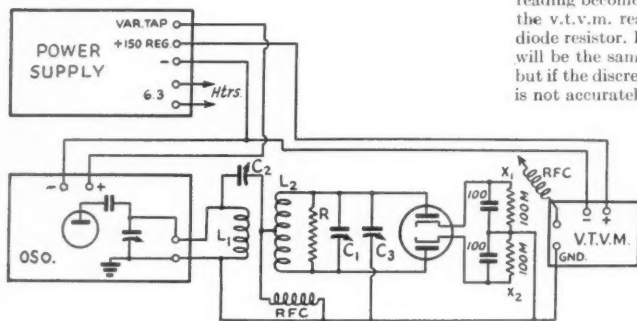
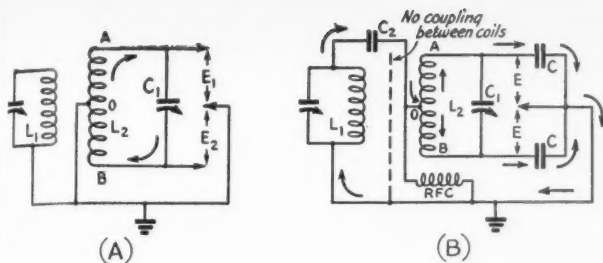
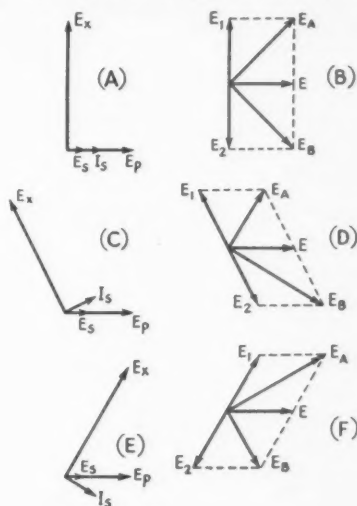
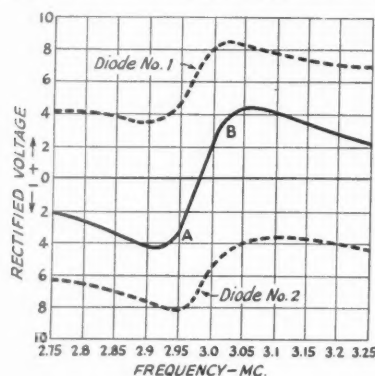

Fig. 10
Fig. 11
Fig. 12
Fig. 13
**Apparatus:** This experiment requires the use of the power supply, oscillator, vacuum-tube voltmeter, test kit and the tube and circuit boards. The circuit arrangement is shown in Fig. 10. The coil  $L_1$  is the movable coil from the circuit board, and replaces the plug-in plate coil normally used in the oscillator. The latter coil should be removed from its socket. The oscillator is operated self-controlled, using the grid coil instead of the crystal. About 30 turns should be used in  $L_1$ .
When  $L_2$  is coupled inductively to  $L_1$  a current flows in the circuit formed by  $L_2C_1$ ; it may have the instantaneous direction indicated by the arrows in Fig. 11-A. The voltage  $E_1$  developed by the current in flowing through the reactance of the part OA of the coil is applied to one diode and that from the current flow through OB,  $E_2$ , is applied to the other diode. The instantaneous current is flowing toward the center-tap in OB and away from it in OA; that is, viewed from the center-tap the currents are 180 degrees out of phase. Consequently the two voltages  $E_1$  and  $E_2$  also are out of phase with respect to the center-tap. These two voltages are equal, if the circuit is balanced, and result in equal rectified voltages from the two diodes. Because of the way in which the load resistors are connected, the points  $X_1$  and  $X_2$  are positive with respect to the common connection between the two resistors, so that the total voltage measured between  $X_1$  and  $X_2$  will be the difference between the two voltages. This difference will be zero, since the two voltages are equal.
When  $L_2$  is not coupled inductively to  $L_1$  but has its center-tap connected to the upper end of  $L_1$  by means of  $C_2$ , the r.f. voltage across  $L_1$  causes a current to flow as indicated by the arrows in Fig. 11-B. The circuit is completed through the capacity of the diode rectifiers and the by-pass condensers across the diode load resistors, the effective capacities being lumped together and represented by the condensers labeled C in Fig. 11-B. At the center tap of  $L_2$  the current divides and flows through the two branches of the coil. Viewed from the center-tap these two components of the current are in phase. Since the diode capacity is only of the order of a few micromicrofarads, the reactance in this part of the circuit is quite high compared to the reactance encountered in either branch of  $L_2$ , with the result that nearly all of the voltage across  $L_1$  appears between the diode plates and the return circuit (ground), without appreciable shift of phase. The r.f. choke provides a d.c. return circuit for the diodes but prevents short-circuiting the r.f. voltage in the return lead. The voltages between A and B are in phase with respect to the center-tap, hence there is no difference of potential between A and B. This is the reason why varying the capacity of  $C_1$  should have no effect on the output voltage with the condenser coupling only; no current flows through the condenser because no voltage appears across its terminals. Since the same voltage is applied to both diodes, the rectified output voltages are the same from each, and again the total voltage between points  $X_1$  and  $X_2$  Fig. 10, is zero.
ships existing between the voltages  $E$ ,  $E_1$  and  $E_2$ , Fig. 11. Both coils are in the same magnetic field, consequently the voltages induced in both are in phase. In the case of the primary,  $L_1$ , this induced voltage is the voltage appearing across the coil, since it is caused by the current flowing in  $L_1$ . The voltage induced in the secondary,  $L_2$ , is small, but causes a large current to flow in the series circuit formed by  $L_2$  and  $C_1$ , when the circuit is resonant. At series resonance the induced voltage and current are in phase, since the inductive and capacitive reactances cancel, therefore the secondary current and the primary voltage are in phase. In flowing through the reactance of  $L_2$  the current
builds up a large resonant voltage (in proportion to the  $Q$  of the circuit) which appears across the terminals A and B, Fig. 11-A. In the coil this reactive voltage leads the current by 90 degrees, as in any inductance. These relationships are shown in Fig. 12-A, where  $E_p$  represents the primary voltage,  $E_s$  the voltage induced in the secondary,  $I_s$  the secondary current in phase with both the primary voltage and induced secondary voltage, and  $E_x$  the resonant voltage appearing across  $L_2$ , 90 degrees ahead of  $I_s$  in phase. (See Exps. 12 and 13.)
Viewed from the center-tap of  $L_2$  the reactive voltage consists of two equal components 180 degrees out of phase, as explained above. This division of the voltage can be represented by two lines of equal length 180 degrees apart, as shown in Fig. 12-B, labeled  $E_1$  and  $E_2$  to correspond to the voltages indicated in Fig. 11-A. The primary voltage, indicated by  $E$  to correspond to Fig. 11-B, is now 90 degrees behind (in the counterclockwise direction) one part of the reactive voltage  $E_1$  and 90 degrees ahead of the other part  $E_2$ . The resultant voltages appearing across each half of the coil, and consequently the voltages applied to each diode, are found by the triangular relationship. The resultant voltage can be found by drawing lines (shown dashed in the drawing) parallel to the voltage lines, beginning at the ends, to form a parallelogram. The diagonal of the parallelogram gives the amplitude of the combined voltage. At resonance, the two resultant voltages are equal, as shown by Fig. 12-B.
The r.f. phase relationship between them is of no importance since it disappears in rectification. Since the amplitudes of the two voltages are the same, the rectified voltages are equal and the total output voltage (between  $X_1$  and  $X_2$ , Fig. 10) is zero.
with the voltage across  $L_1$ , since both voltages result from the current flowing in  $L_1$ . However, the series circuit formed by  $L_2C_1$  is no longer resonant. Since the frequency has been lowered, the inductive reactance of  $L_2$  is smaller than the capacity reactance of  $C_1$ , hence the net reactance of the circuit is capacitive. As a result, the current flowing in the circuit leads the induced voltage. This is shown at Fig. 12-C,
where the designations correspond to those of Fig. 12-A. The reactive voltage,  $E_s$ , is 90 degrees in advance of the current, as before, and is therefore drawn at right angles to it as shown. From the viewpoint of the center-tap the conditions are as shown in Fig. 12-D, where the reactive voltage has again been split into two parts,  $E_1$  and  $E_2$ , drawn at the same angle with respect to the primary voltage,  $E$ , as in Fig. 12-C. On completing the parallelograms to find the resultant voltages  $E_A$  and  $E_B$ , it is found that the amplitude of  $E_A$  has decreased and that of  $E_B$  increased, because of the shift in phase of the voltage developed in the resonant circuit. Consequently the voltage applied to one diode is greater than the voltage applied to the other. The rectified voltage appearing across the terminals  $X_1$  and  $X_2$  is the difference between the rectified output voltages of the two diodes. Since the diode on side A is assumed to have the smaller voltage (sum of  $E_1$  and  $E_s$  phase considered) it is less positive than the diode on side B. Hence A is negative with respect to B. If  $X_1$  corresponds to A and  $X_2$  to B,  $X_1$  is negative with respect to  $X_2$ .
The conditions existing when the applied frequency is higher than the resonant frequency of  $L_2C_1$  are shown in Fig. 12 at E and F. In this case the net reactance of the series circuit is inductive and the current lags behind the induced voltage. On dividing the reactive voltage into the two components it is found to combine with the primary voltage as shown in Fig. 12-F. In this case  $E_A$  is larger than  $E_B$ , so that the other diode now has the greater voltage applied. The rectified output voltages of the two diodes are in proportion, consequently a voltage appears between  $X_1$  and  $X_2$ . However, the polarity of this voltage is opposite to that resulting from applying a frequency lower than the resonant frequency to the circuit, since the second diode is now at the higher potential.
Once the resonant point is found, do not touch the secondary tuning controls or the coupling between  $L_1$  and  $L_2$ . Set the oscillator frequency to 2.75 Mc., as checked by the receiver calibration, and measure the rectified output voltage of both diodes. Then increase the frequency in steps of about 25 kc., taking voltage readings each time, until a frequency of 3.25 Mc. is reached. When the complete set of readings has been secured, convert the readings to volts by means of the v.t.v.m. calibration curve. The data may be plotted as shown in Fig. 13. Since the output voltage of the discriminator is taken between the points  $X_1$  and  $X_2$ , Fig. 10, and the relative polarity of the voltage with respect to one end such as  $X_2$  (which is grounded in the normal discriminator circuit) depends upon which diode is delivering the largest output voltage, the output of one diode can be plotted as "positive" voltage and the output of the other as "negative" voltage. That is, if  $X_2$  is grounded the mid-connection between the two load resistors will be negative with respect to ground, because of the direction of rectified current flow, while point  $X_1$  will be positive with respect to the mid-connection because the rectified current flows in the opposite direction through the upper load resistor. If the output voltage of the upper diode is larger than that of the lower, the net output voltage will be positive, and vice versa. Hence the output of the lower diode may be plotted as a negative voltage and the output of the upper as a positive voltage. The dashed curves in Fig. 13 show the results of such measurements. Below resonance the output of the upper diode (No. 1) decreases very slightly to a minimum at about 2.9 Mc., when it rises rather rapidly to reach a maximum at
The discriminator output voltage is the difference between these two curves. To plot it, subtract the voltage from diode No. 2 from that of diode No. 1 at the same frequency, selecting as many points as are necessary to permit drawing a curve. If the output of No. 2 is larger than No. 1, the output voltage is negative, and vice versa. The solid curve shows the result of taking the difference between the two dashed curves in Fig. 13. The curve has a negative maximum at a little over 2.9 Mc. and a positive maximum at about 3.05 Mc. It crosses the zero line (equal voltage outputs from the two diodes) at 2.98 Mc., showing that this is the resonant frequency. The peaks are separated by about 150 kc. in this particular characteristic. The characteristic is straight between the points A and B, which would constitute suitable limits of frequency deviation for undistorted detection. Point A is at 2.95 Mc. and point B at 3.01 Mc., so that the maximum frequency swing which could be handled by this circuit would be 60 kilocycles. That is, the maximum permissible frequency deviation, corresponding to 100 per cent modulation of an amplitude-modulated transmitter, would be 30 kc.